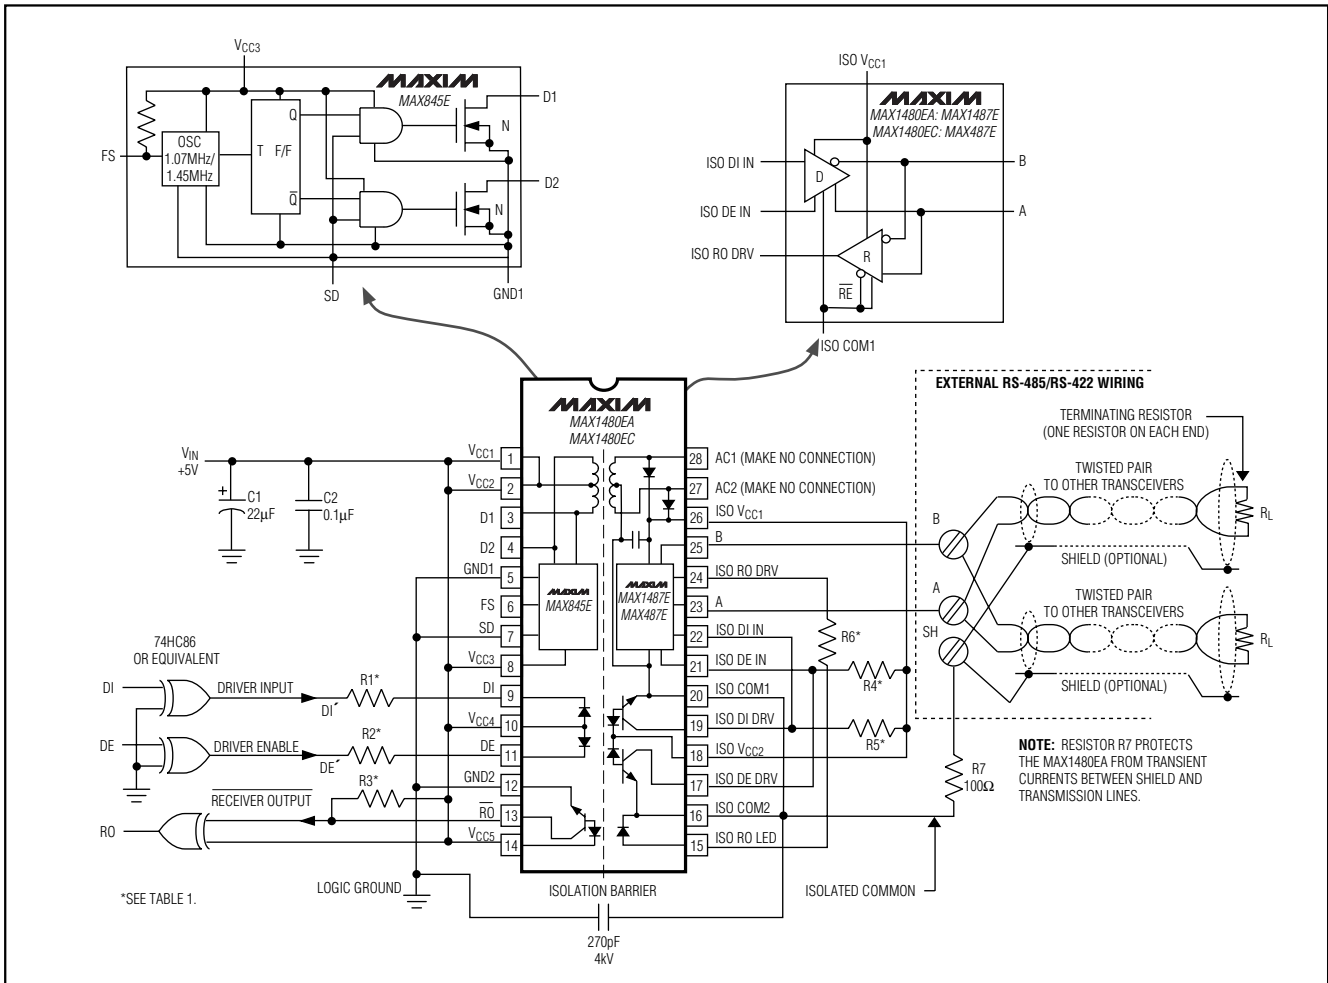
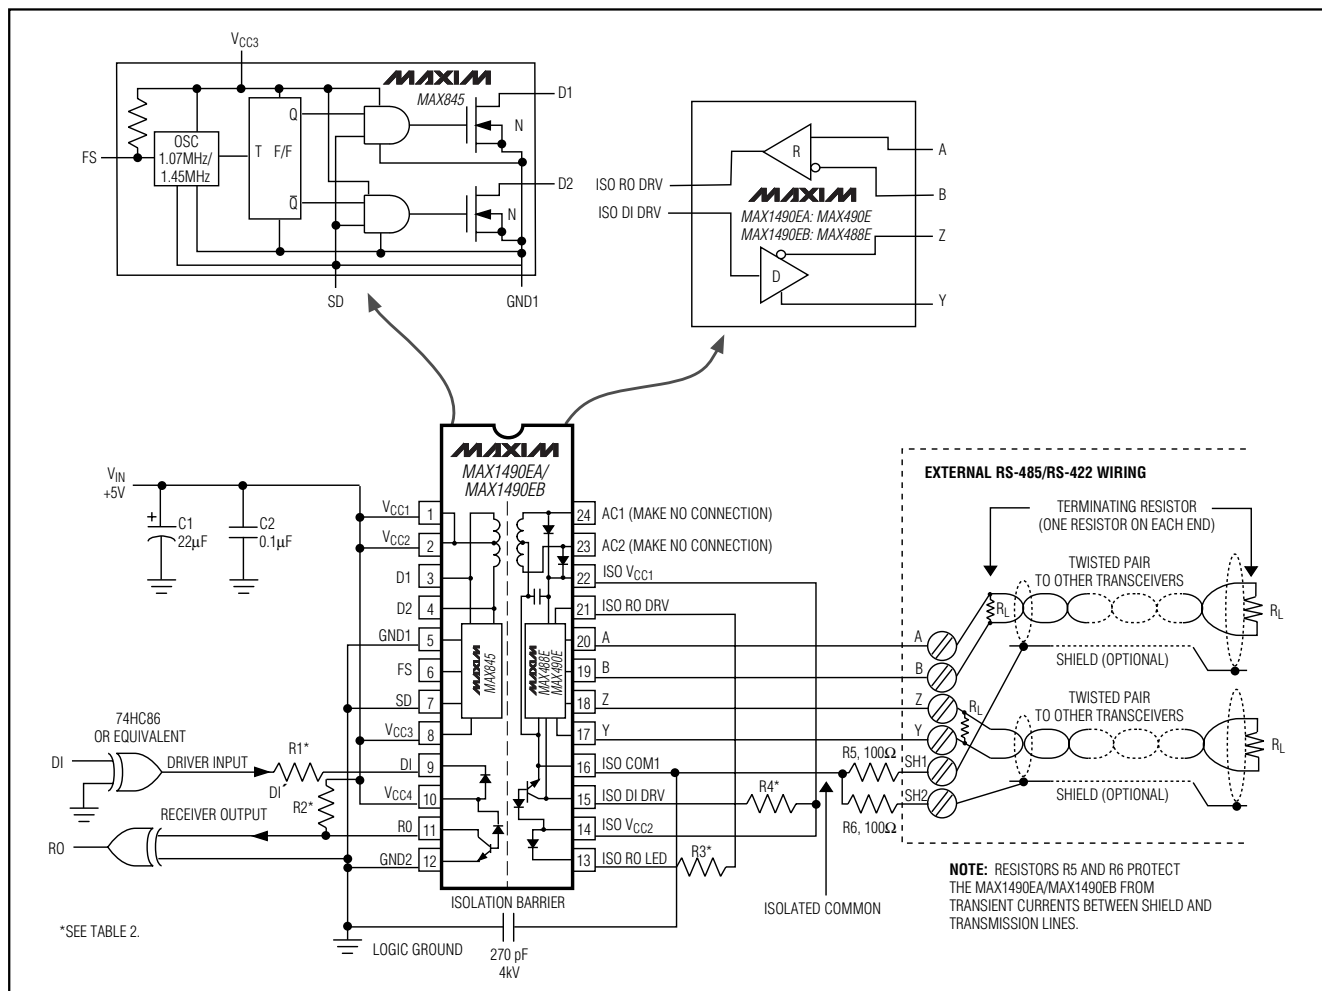

Figure 1. MAX1480EA/MAX1480EC Detailed Block Diagram and Application Circuit
Figure 2. MAX1490EA/MAX1490EB Detailed Block Diagram and Typical Application Circuit
**Note 2:** For DE+ and DI+ pin descriptions, see *Detailed Block Diagram and Typical Application Circuit* (Figure 1 for MAX1480EA/MAX1480EC, Figure 2 for MAX1490EA/MAX1490EB).
( $V_{CC-} = +5V$ ,  $V_{FS} = V_{CC-}$ , Figures 1 and 2,  $T_A = +25^\circ C$ , unless otherwise noted.)
( $V_{CC-} = +5\text{V}$ ,  $V_{FS} = V_{CC-}$ , Figures 1 and 2,  $T_A = +25^\circ\text{C}$ , unless otherwise noted.)
( $V_{CC-} = +5V$ ,  $V_{FS} = V_{CC-}$ ,  $V_{DI} = 0$ ,  $DE$  toggled 0 to 5V at 5kHz, Figures 1 and 2,  $T_A = +25^\circ C$ , unless otherwise noted.)
**Note:** For DE+ and DI+ pin descriptions, see Detailed Block Diagram and Typical Application Circuit (Figure 1 for MAX1480EA/MAX1480EC, Figure 2 for MAX1490EA/MAX1490EB).
The MAX1480EA/MAX1480EC/MAX1490EA/MAX1490EB are complete, electrically isolated, RS-485/RS-422 data-communications interface solutions. Transceivers, optocouplers, a power driver, and a transformer in one standard 28-pin DIP package (24-pin package for the MAX1490EA/MAX1490EB) provide a complete interface. Signals and power are internally transported across the isolation barrier (Figures 1, 2). Power is transferred from the logic side (nonisolated side) to the isolated side of the barrier through a center-tapped transformer. Signals cross the barrier through high-speed optocouplers. A single +5V supply on the logic side powers both sides of the interface. The MAX1480EA/MAX1480EC offer half-duplex communications while the MAX1490EA/MAX1490EB feature full-duplex communication. The functional input/output relationships are shown in Tables 3 through 6.
**Table 1. Pullup and LED Drive Resistors for Figure 1**
**Table 2. Pullup and LED Drive Resistors for Figure 2**
\* For DE′ and DI′ pin descriptions, see Detailed Block Diagram and Typical Application Circuit (Figure 1 for MAX1480EA/MAX1480EC, Figure 2 for MAX1490EA/MAX1490EB).
The ±15kV ESD test specifications apply only to the A, B, Y, and Z I/O pins. The test surge may be referenced to either the ISO COM or to the nonisolated GND (Figures 1 and 2).